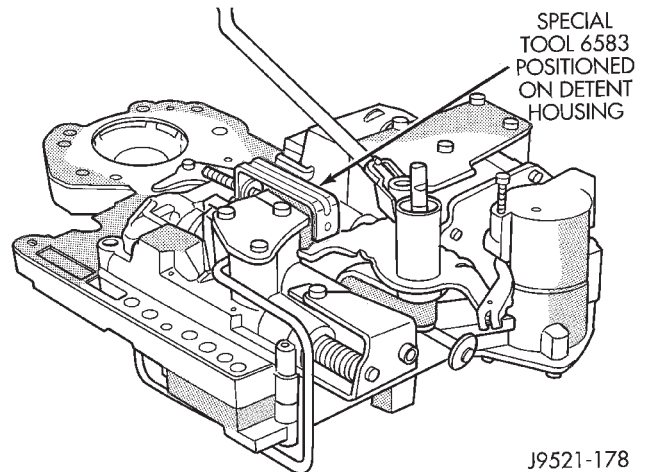

Fig. 72 Detent Ball And Spring
(13) Secure detent ball and spring with Retainer Tool 6583 (Fig. 72).